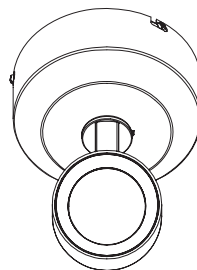

Fig 9
Step 5: Reinstall front cap back in place. Ensure torsion spring securely goes back into spring slot on fixture. (See Fig 9)